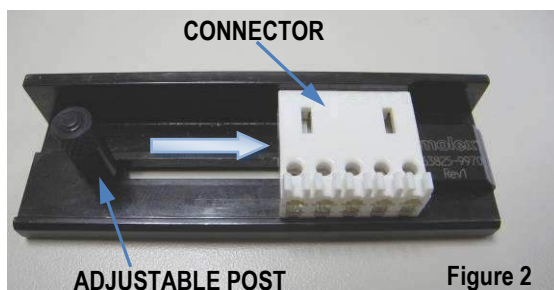

Figure 2
- Place the connector in the connector nest and slide it up against the stop block as shown in Figure 2.